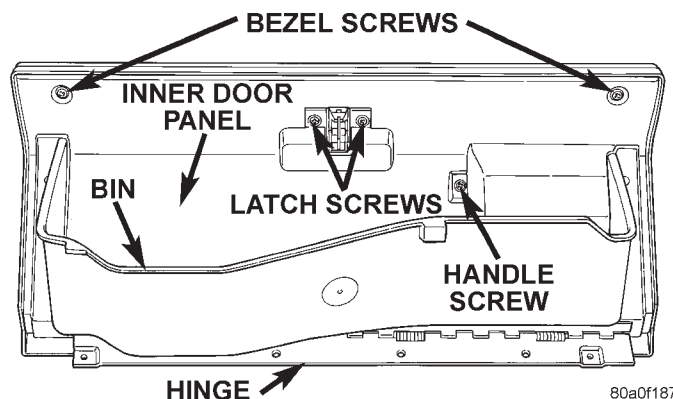

Fig. 18 Glove Box Components
(1) Open the glove box.
(2) Remove the two screws that secure the bezel at the top of the glove box inner door panel (Fig. 18).